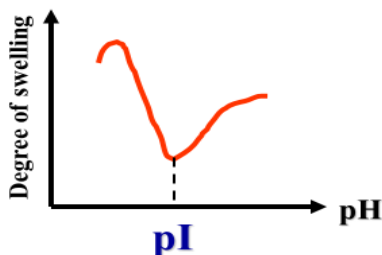

Figure 3 – Degree of swelling of protein in solutions with the different pH values
1. By measuring the *degree of swelling* of proteins in solutions with different acidity (Fig. 3):